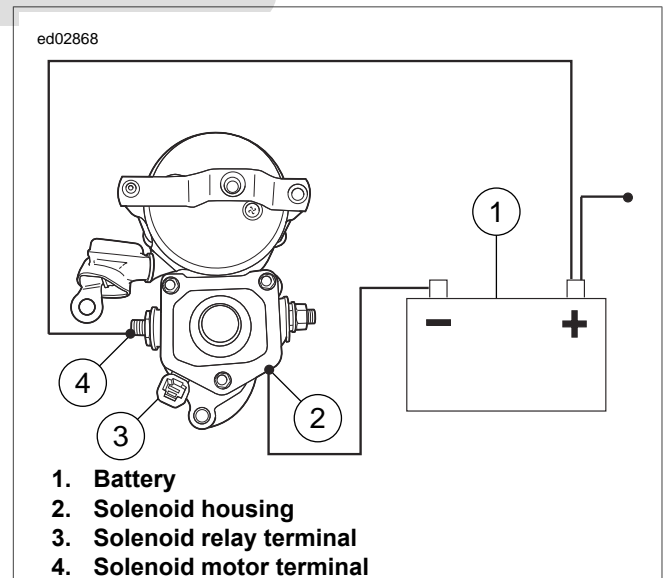

Figure 3-13. Return Test
1. See Figure 3-13. With test leads still connected in the manner specified at the end of 3.5 TESTING STARTER ON BENCH, Solenoid Hold-In Test, disconnect solenoid relay terminal/positive battery post test lead at either end.